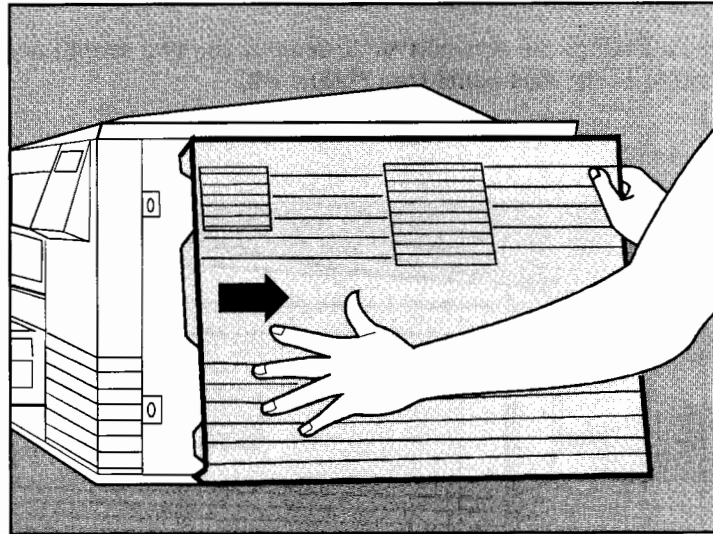

Figure 1-3. Removing the Side Panel
6. Remove the plastic side panel by sliding it to the right (refer to Figure 1-3).